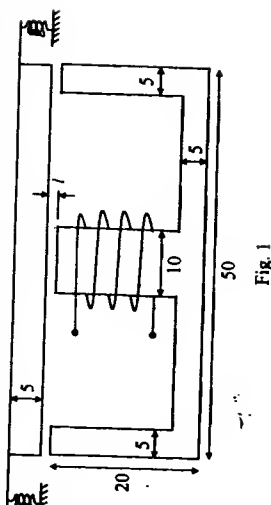

Fig. 1
- 20 1. The dimensions of electromagnet shown in Fig. 1 are in centimetre (cm) and the depth of the core and the armature is 5 cm. The coil has 1000 turns. Assuming that the permeability of the magnetic material is very large relative to air ($\mu_0 = 4\pi \times 10^{-7} \text{ H/m}$) and neglecting the leakage flux and the fringing of flux at the air-gaps: